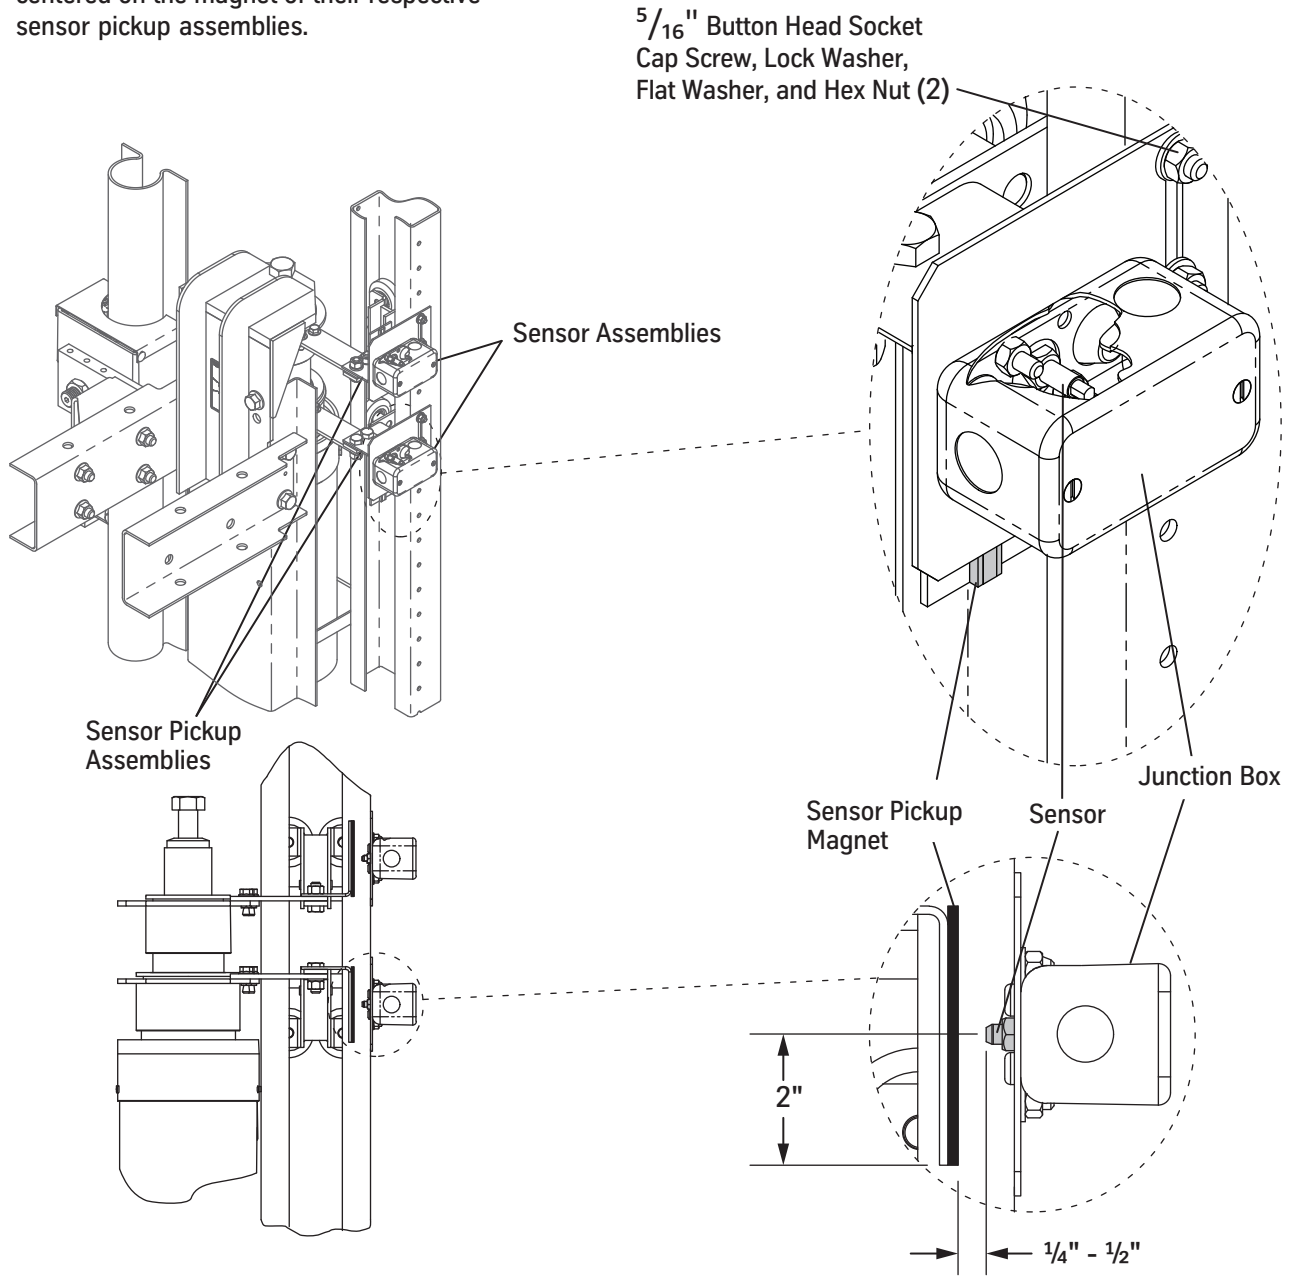

Figure 46 - Static Sensor Installation
1. Manually resync the jacks. See Figure 46 on page 77.